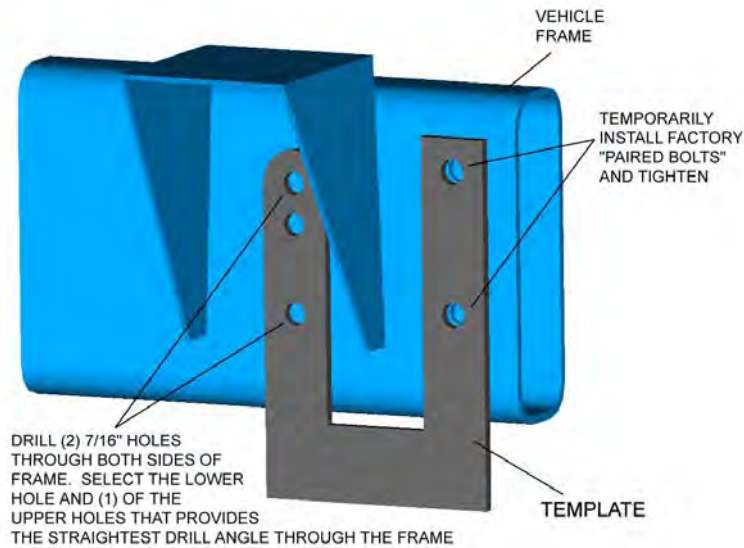

Figure 3 Template in place outside the right (passenger side) frame rail
4. Remove the brackets from the bumper. Remove the three (3) nuts holding each bracket in place. Save the nuts to reattach the bumper later. The brackets will not be reinstalled.
5. Install the Template as shown in **Figure 3**. Temporarily install the factory “paired” bolts from outboard the frame. Install the nuts and tighten enough to prevent the Template from moving. Drill two (2) 7/16” holes through the remaining Template holes and both inner and outer frame walls. It is important that the holes be drilled straight across the frame in order to align with the brackets to be installed later. If the Template has more than one upper hole, drill the one that allows for the straightest drill angle through the frame. Later models typically use the lower of the (2) upper holes because of body mount interference. Repeat this step for the opposite side of the vehicle.